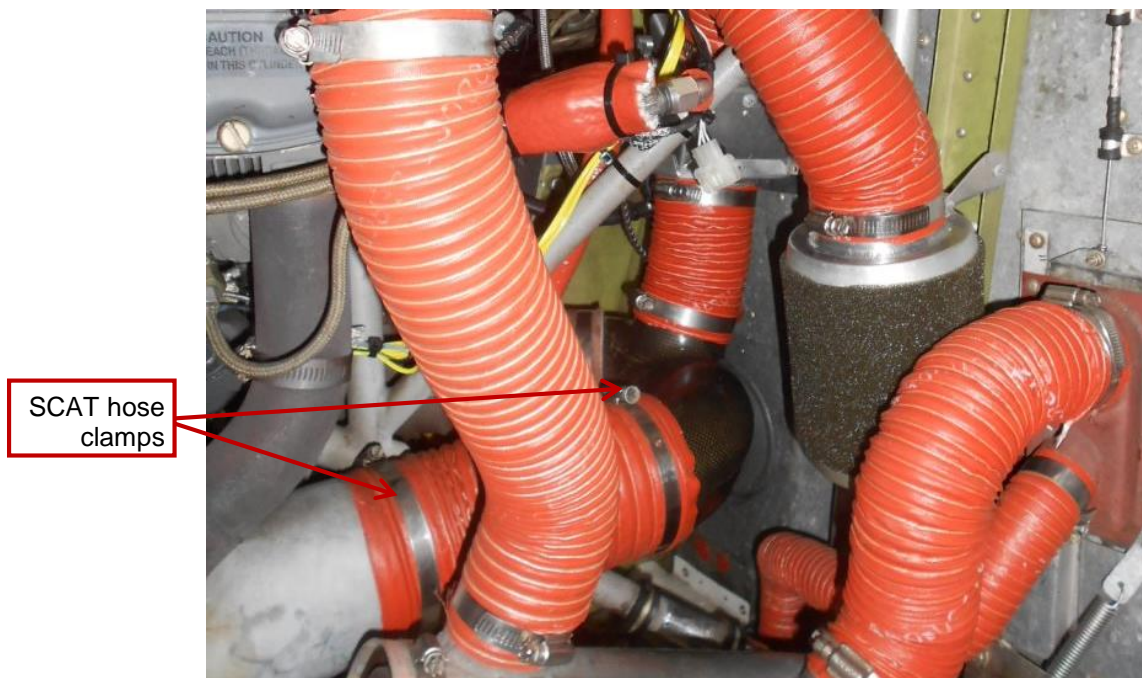

Figure 2 – Primary Air Duct SCAT hose (Filtered Alternate Air System Installed)
5. Disconnect the Scat hose at the rear of the inlet duct, refer to Figure 2.